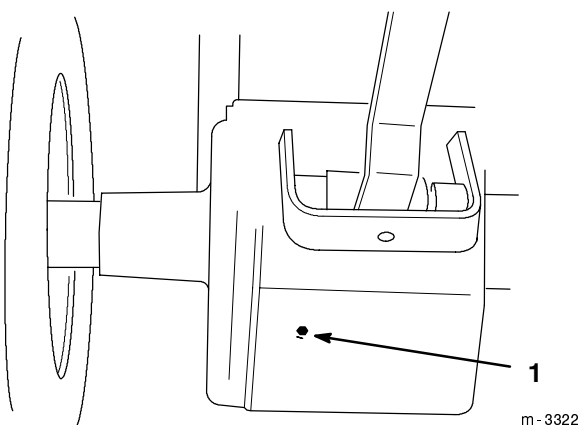

Figure 45
3. Place a pan below the transaxle drain. Open the drain by removing the plug (Fig. 45).